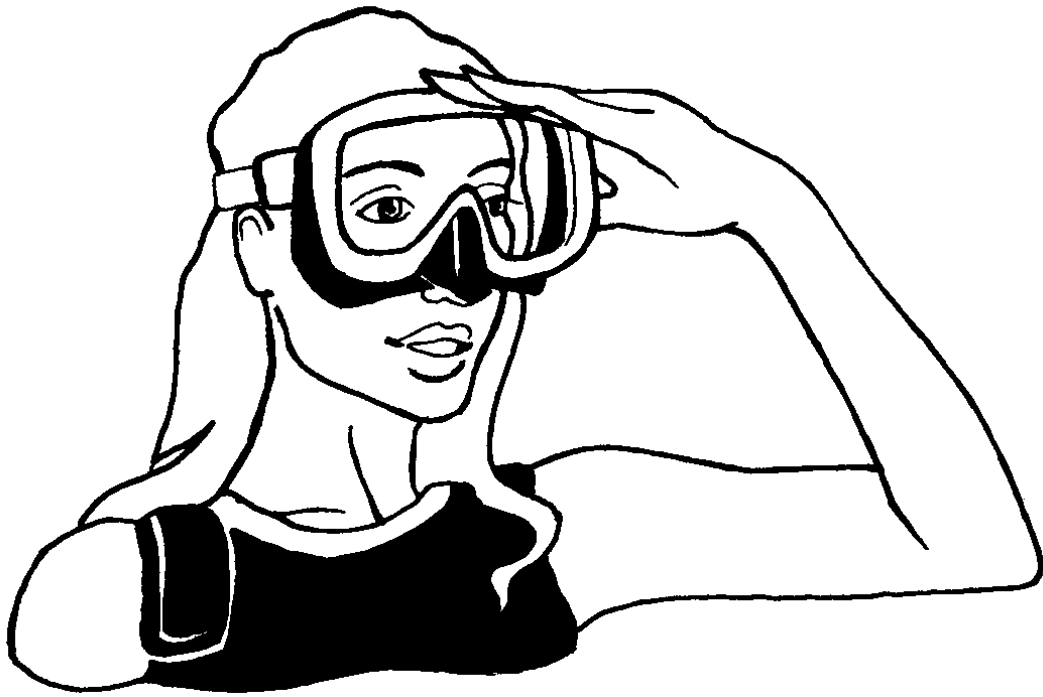

Figure 137.1 Start by tilting your head forward and displacing the water at the bottom of the mask first.
2. With a non-purge valve mask, the mask is cleared as shown in Figure 137.1 and 137.2.
5. Describe what is happening in Figure 137.1 and 137.2.